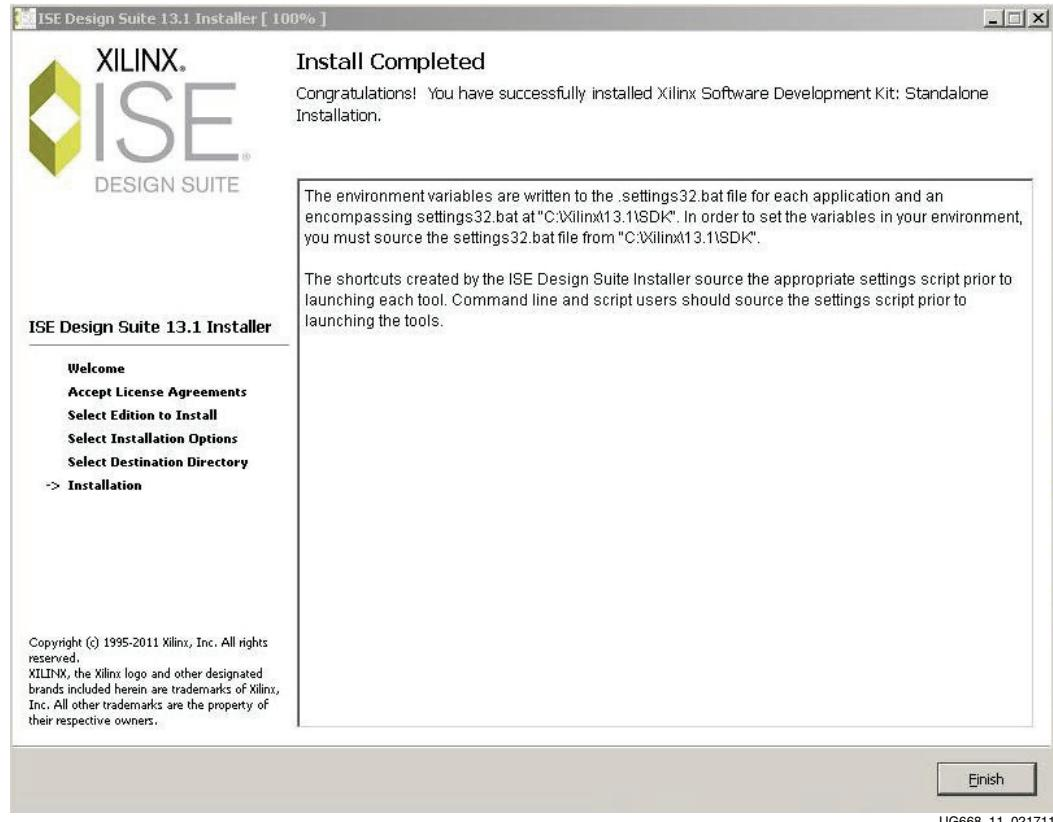

Figure 11: Installation Completed
3. When the installation has completed, the window shown in Figure 11 is displayed.